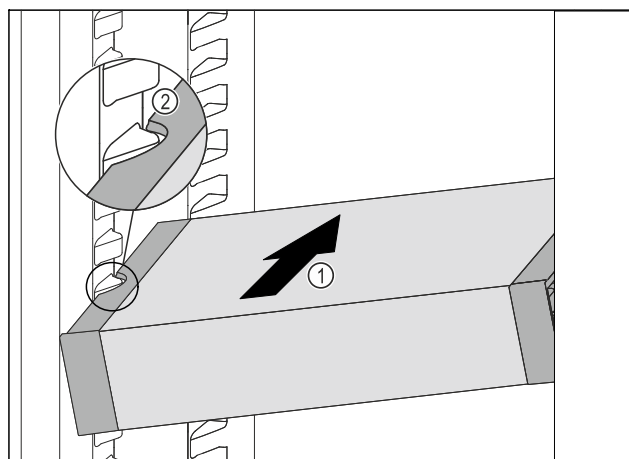

Fig. 59
- Insert the VarioSafe into the refrigerator compartment at an angle Fig. 59 (1) until the recesses in the side panel Fig. 59 (2) of the VarioSafe are at the level of the support rib in the refrigerator compartment.